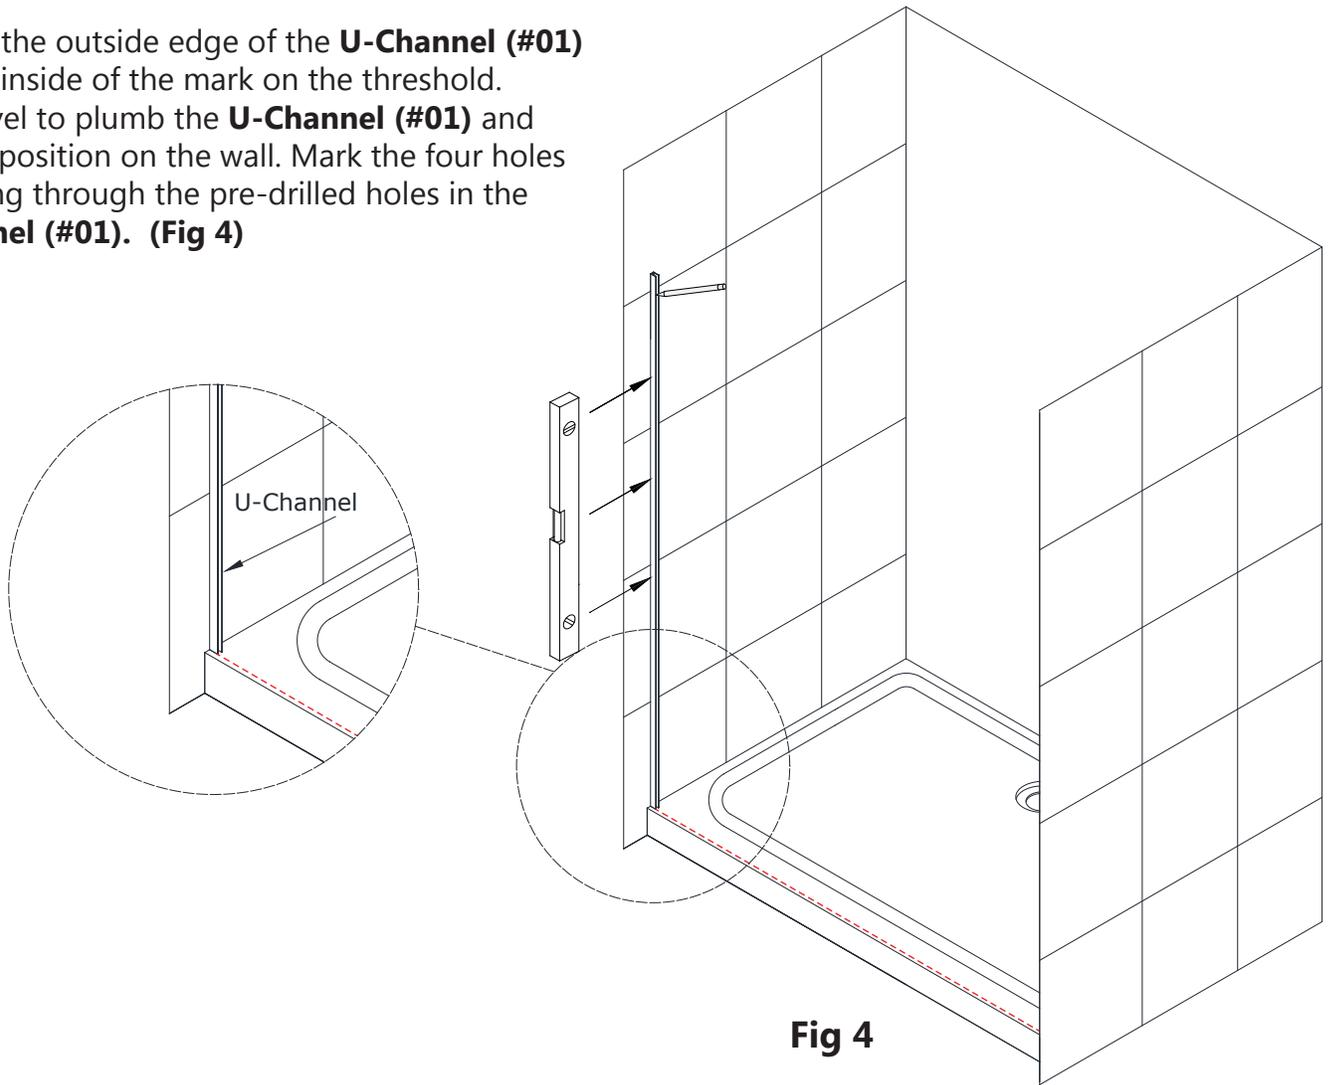

Fig 4
4. Align the outside edge of the **U-Channel (#01)** with the inside of the mark on the threshold. Use a level to plumb the **U-Channel (#01)** and mark its position on the wall. Mark the four holes for drilling through the pre-drilled holes in the **U-Channel (#01)**. (**Fig 4**)